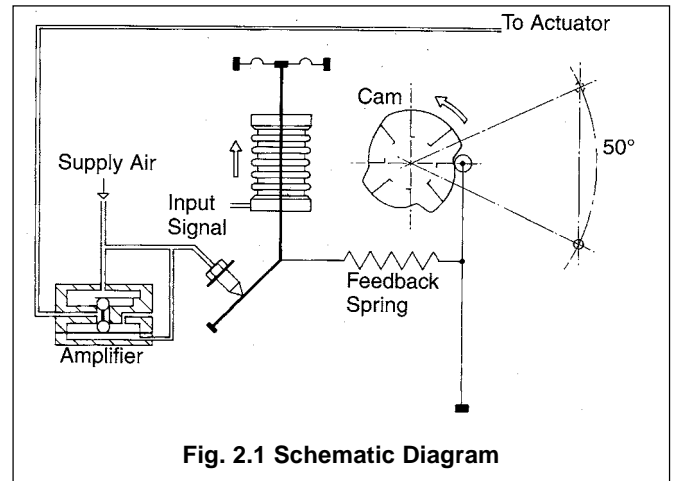

Fig. 2.1 Schematic Diagram
2.1 Principle of Operation – Fig 2.1